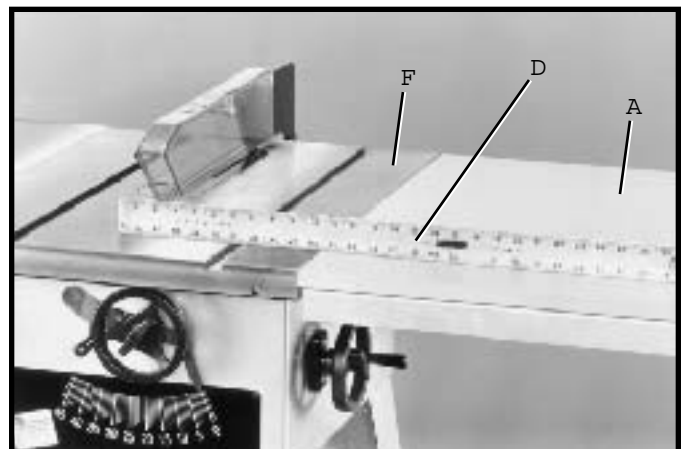
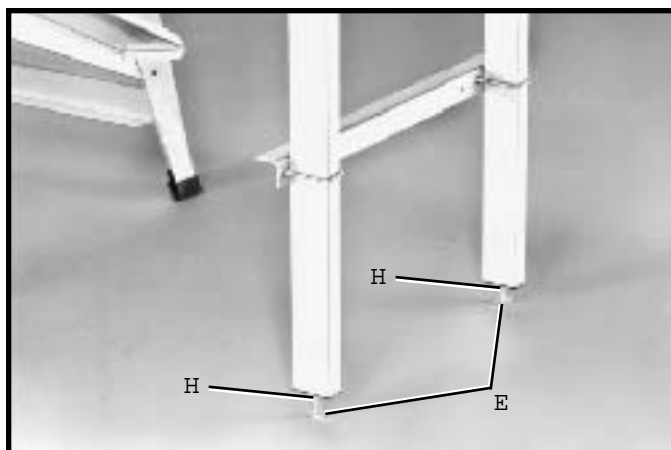
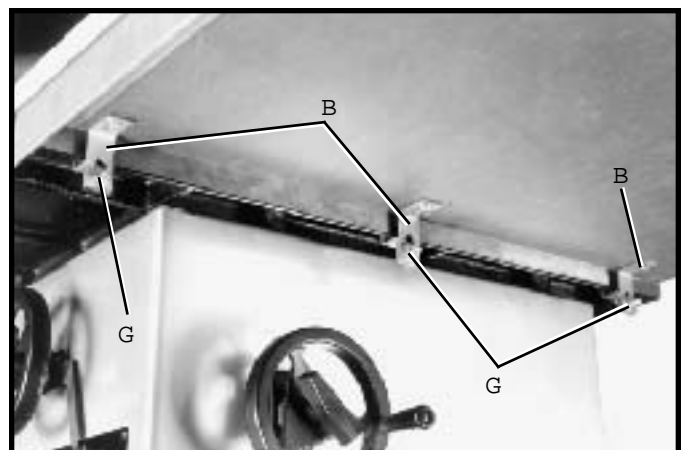

Fig. 53
Fig. 54
Fig. 55
3 Using a straight edge (D) Fig. 53, make certain the surface of the Unifence table (A) is level with the saw table (F) by adjusting the height of the two leveling screws (E) Fig. 54, at the base of the table legs and adjusting the height of angle brackets (B) Fig. 55. Once the Unifence table is level with the saw table, tighten three hex nuts (G) Fig. 55, and position hex nuts (H) Fig. 54, against the bottom of the table legs to hold the leveling screws in position.